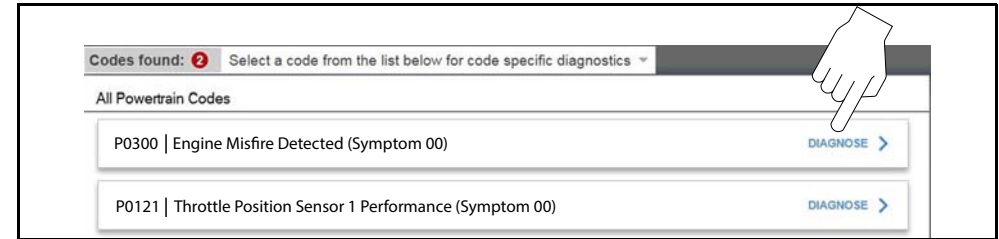

Figure 4-53
- Select the code noted on previous screen to continue (Figure 4-53).